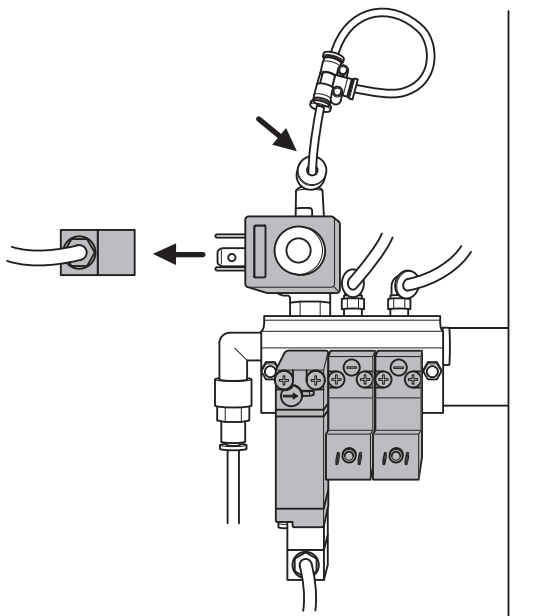

Fig. 38: Stopping the air supply behind Y13
- Stop the air supply behind the solenoid valve (Y13) as shown in Fig. 38:, or pull out the electric plug.